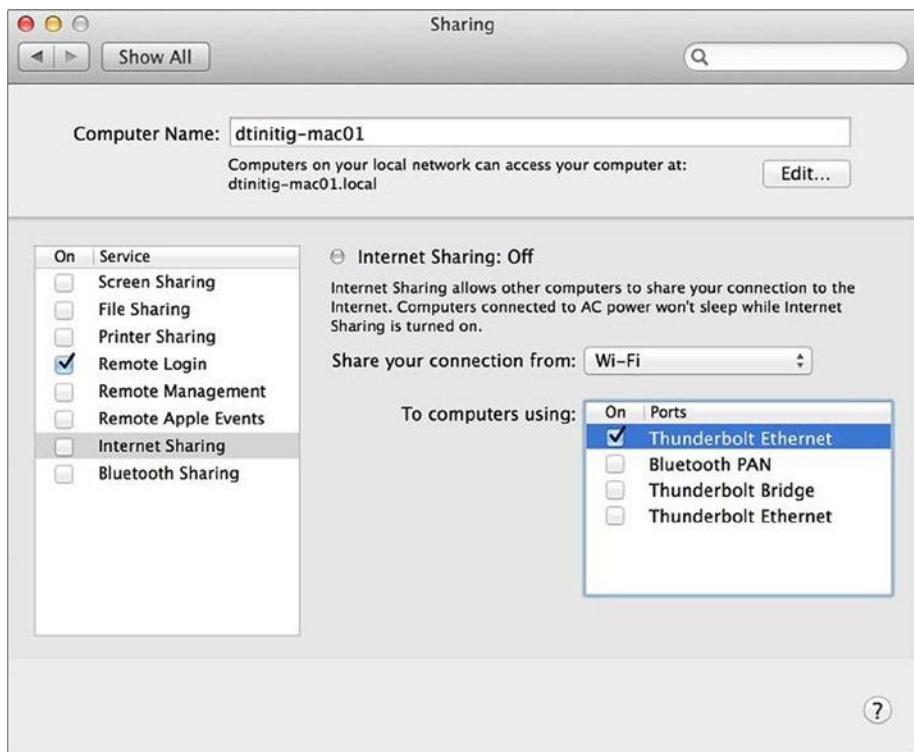

Figure 5-19. Sharing an Internet connection on MacOSX
6. It's easy to share the Internet connection between different adapters on a Mac. Using the Apple menu, choose System Preferences and select Internet Sharing. Then select the adapter that will share the Internet connection and the adapter that will receive the sharing. For example, Figure 5-19 shows the WiFi adapter on MacOSX sharing the Internet connection with the Ethernet adaptor, wherein Intel Galileo is connected.